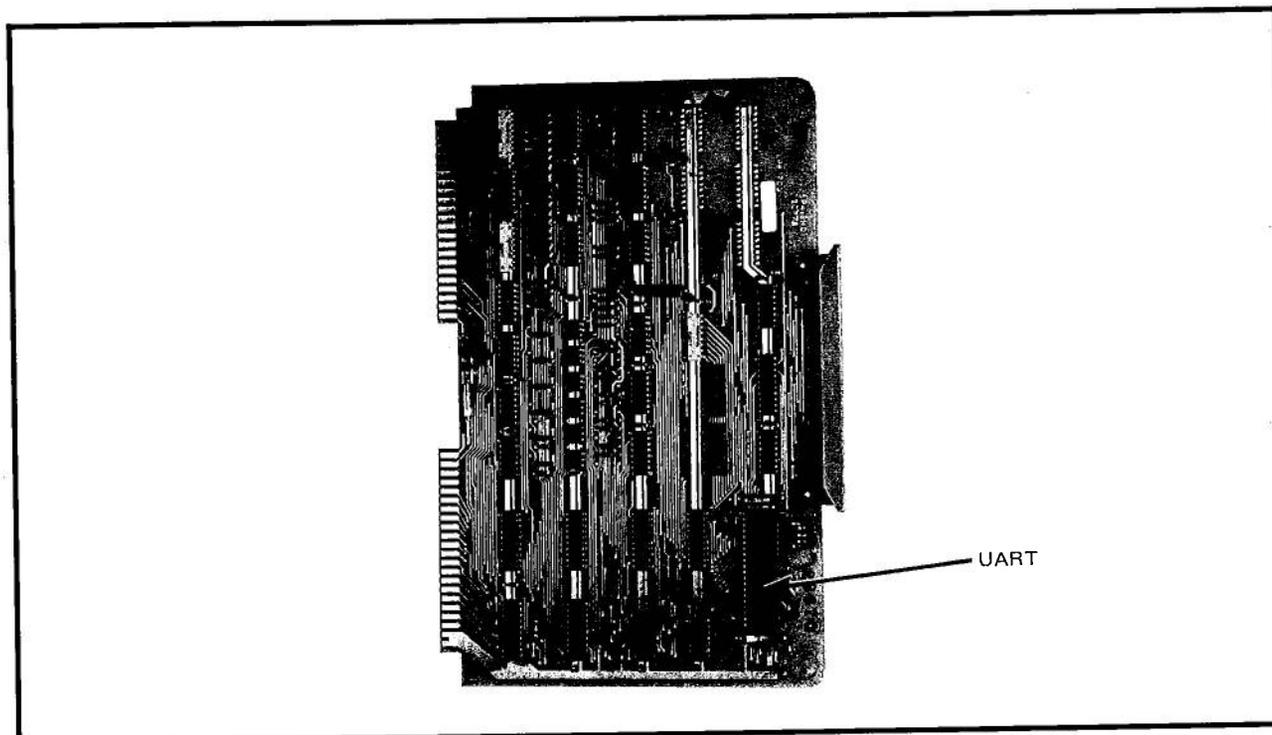

Figure 9-18. PC-700 I/O Interface Module UART Location
- 8. PC-700 only** — Check to see that the UART IC is securely seated and positioned properly into its socket on the I/O interface module. See Figure 9-18.